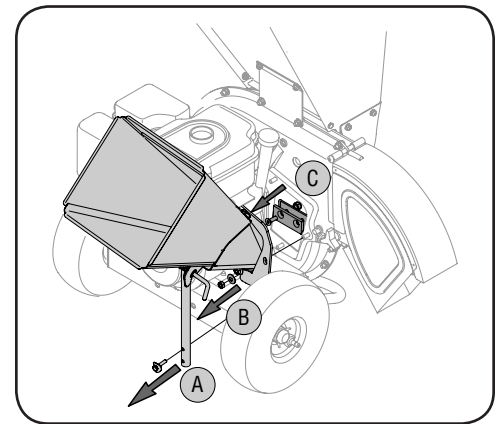

Figure 4-2
3. Remove the chipper chute support brace from the frame by removing the two hex bolts and saddle washers which secure it. See A in Figure 4-2.
4. Remove the chipper chute by removing three hex nuts and washers which secure it to the impeller housing. See B in Figure 4-2.
6. Remove the blade by removing the internal hex screws, lock washers and hex nuts which secure it to the impeller. See C in Figure 4-2. Retain the hardware.